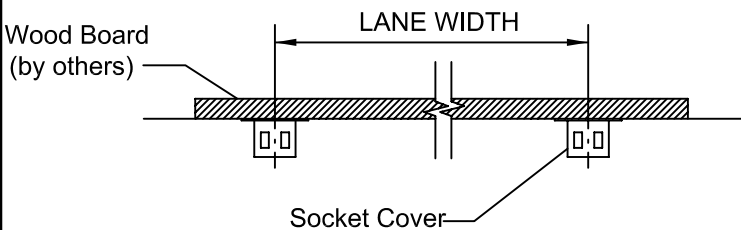
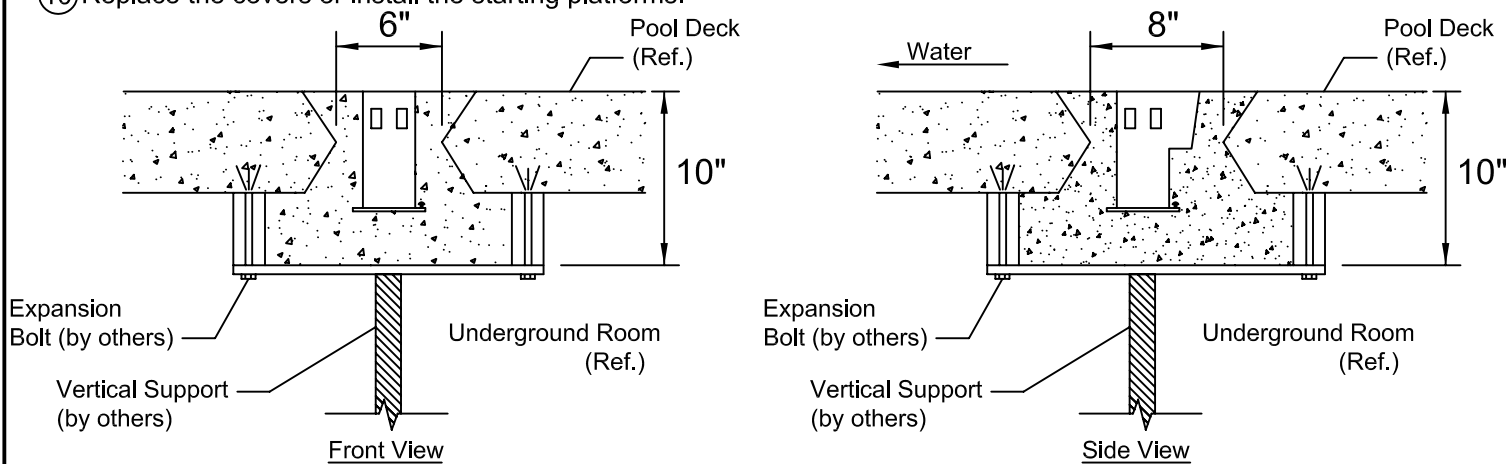

Figure 3: Fixture diagram.
Figure 4: Anchor setting diagram for slab deck with underground room.
- ③ Remove the covers from the anchor sockets and attach them to a wood board via wood screws. The covers should be spaced one lane width apart (see Figure 3).
- ④ Align the edges of the covers to be parallel to the edge of the board. Replace the anchors onto the cover.
- ⑤ Lay the board over the excavated holes with the long edge parallel to the pool wall. Properly bond/ground each anchor at this time. Set the center point of each anchor at the exact 'B' dimension from the pool wall as specified on the specification sheet for the make and model of the platform ordered.
- ② Cut a hole through the slab (at the 'B' dimension) measuring approximately 6" x 8". Undercut in a hourglass shape the sides of the hole slightly (see Figure 4).
- ③ Construct a 1/2 box to achieve a 10" minimum pour depth dimension as shown and lag to the underside of the slab. Support the box by wedging vertical supports between the room floor and underside of the box. Supports should remain until concrete is poured and cured.
- ④ Remove the covers from the anchor sockets and attach them to a wood board with wood screws. The covers should be spaced one lane width apart (see Figure 3 on page 2).
- ⑤ Align the edges of the covers to be parallel to the edge of the board. Replace the anchors onto the covers.
- ⑥ Lay the board over the excavated holes with the long edge parallel to the pool wall. Properly bond/ground each anchor at this time. Set the center point of each anchor at the exact 'B' dimension from the pool wall as specified on the specification sheet for the make and model of the platform.